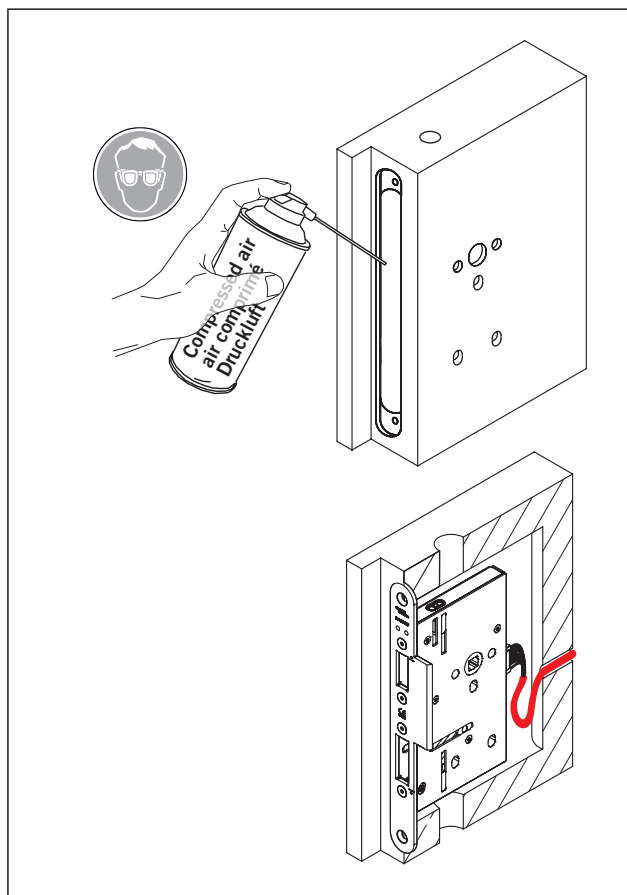

Fig. 39 Insert lock
6. Insert the lock into the door leaf recess (Fig. 39).